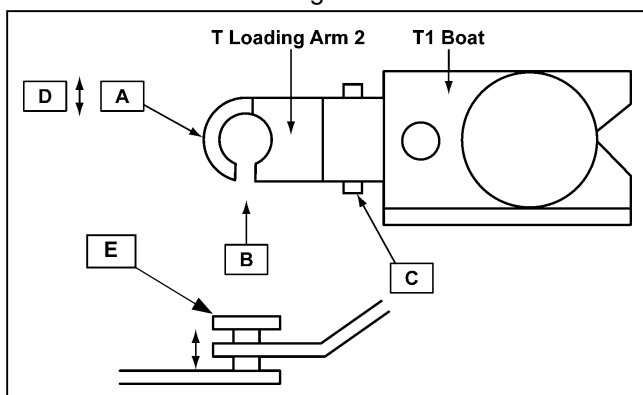
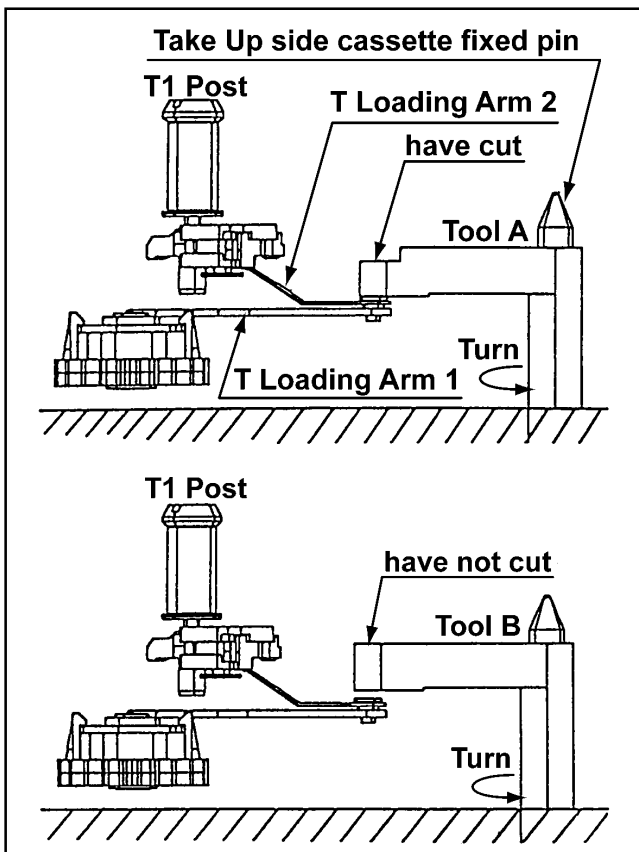

Figure 5-17-1
Figure 5-17-3
3. Set the T Arm Height Adj. Tool A (VFK1452) to take up side cassette fixed pin as shown in figure 5-17-3.
4. Turn the Tool A and confirm that the Tool A is contact to pin E (the position of pin E as shown in figure 5-17-1) as shown in figure 5-17-3.
5. Set the T Arm Height Adj. Tool B (VFK1543) to take up side cassette fixed pin as shown in figure 5-17-3.
6. Turn the Tool B and confirm that the Tool B does not contact to pin E (the position of pin E as shown in figure 5-17-1) as shown in figure 5-17-3.